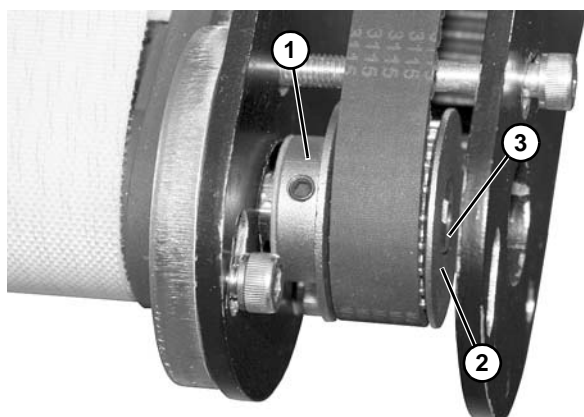

Figure 10
12. Position driven pulley (Figure 10, item 1) so that the flat surface (Figure 10, item 2) is flush with the output shaft (Figure 10, item 3).